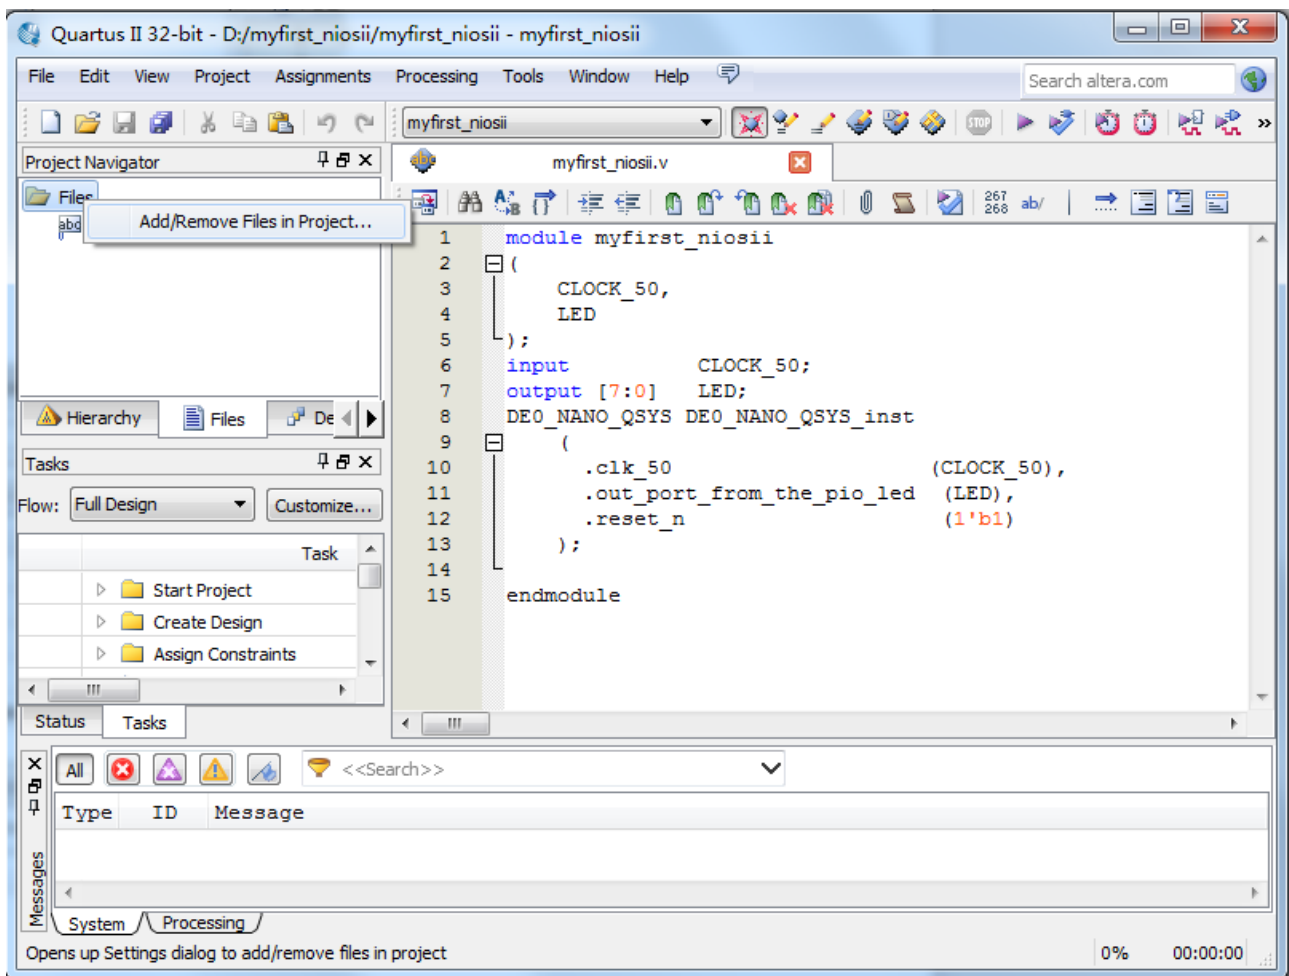
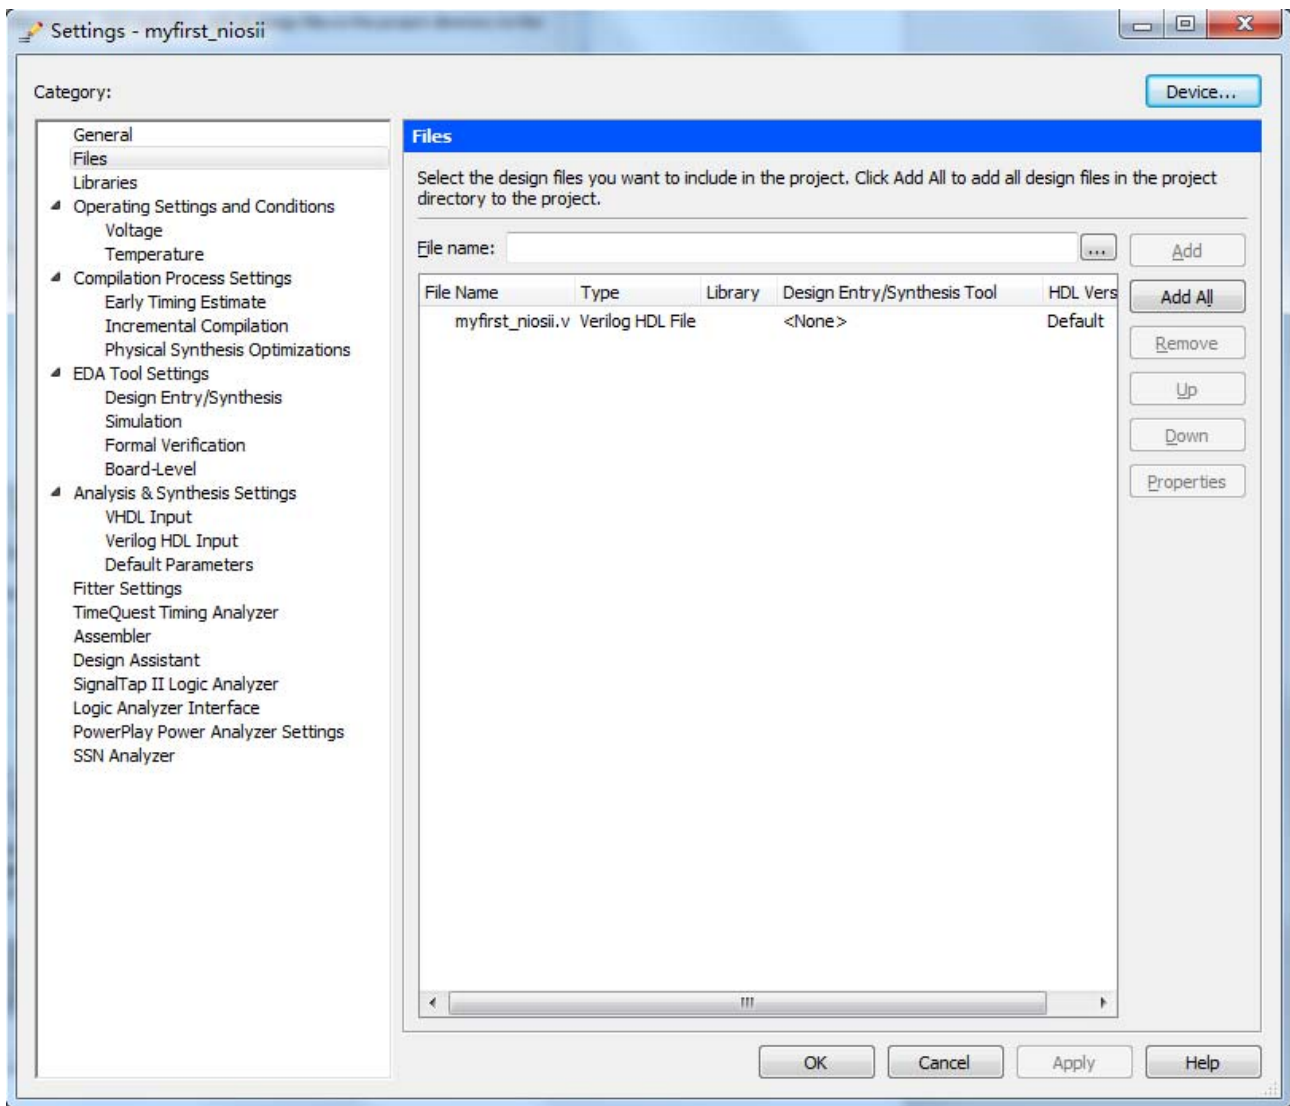
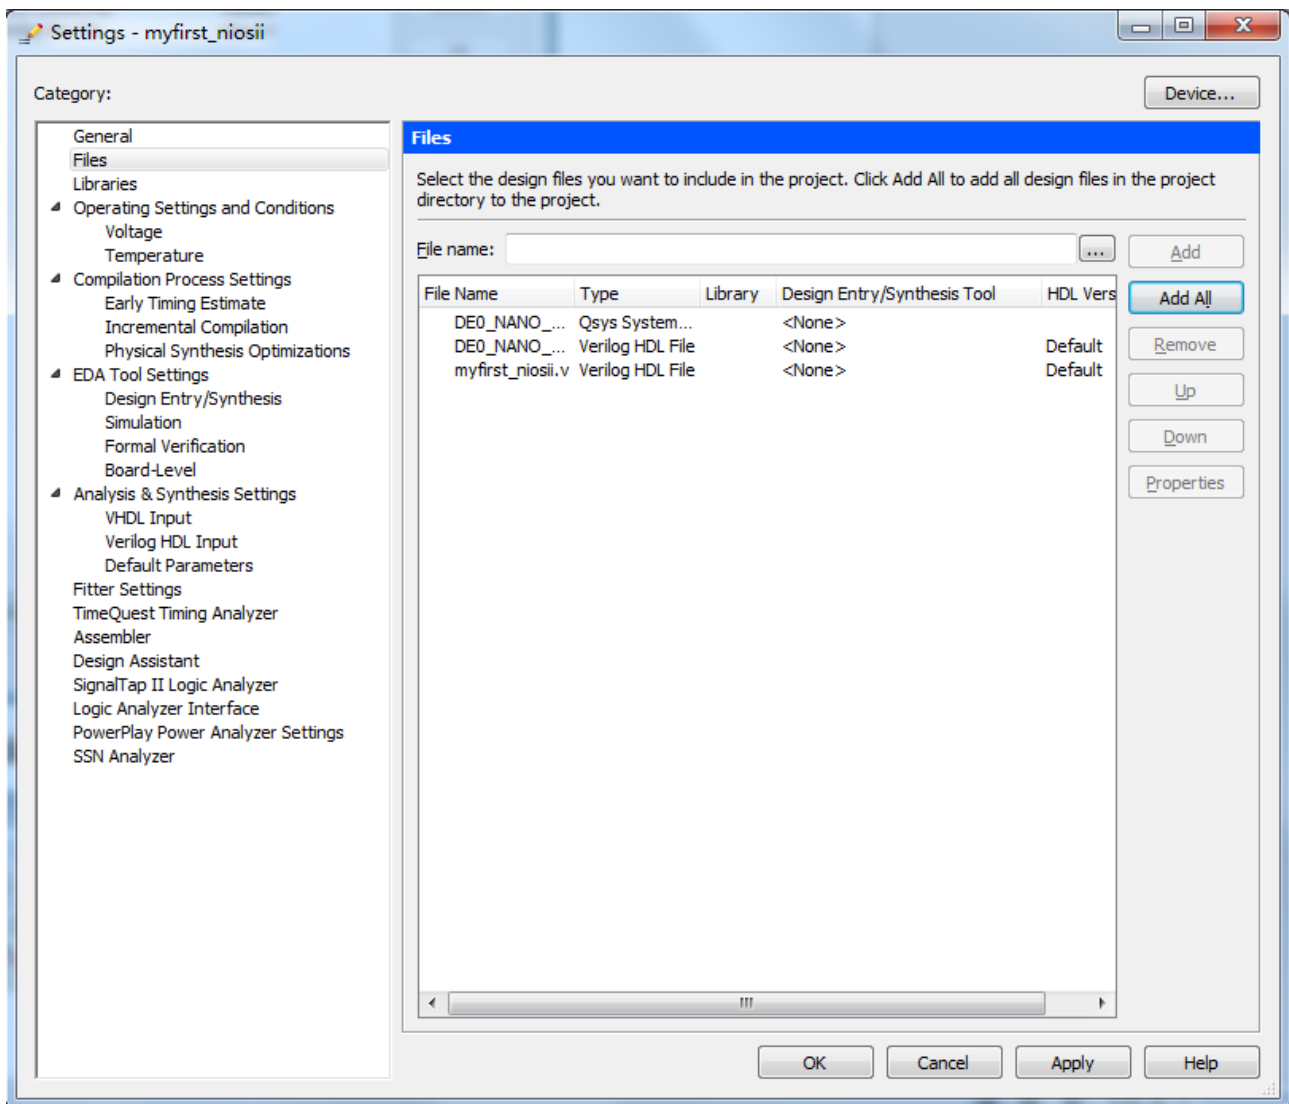

Figure 1-58 Add file
Figure 1-59 Add file
Figure 1-60 Add file
36. Add File in project as shown in **Figure 1-58**, add DE0\_NANO\_QSYS.qsys and DE0\_NANO\_QSYS.v to the project as shown in **Figure 1-59** and **Figure 1-60**. it is completed as shown in Figure 1-.